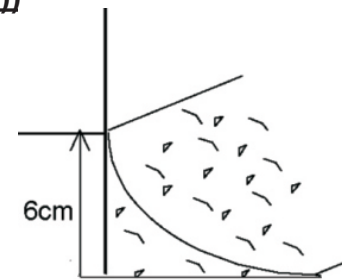

Fig. 4
6. Layer of masonry sand on the Inside of the Pool (Fig. 4)